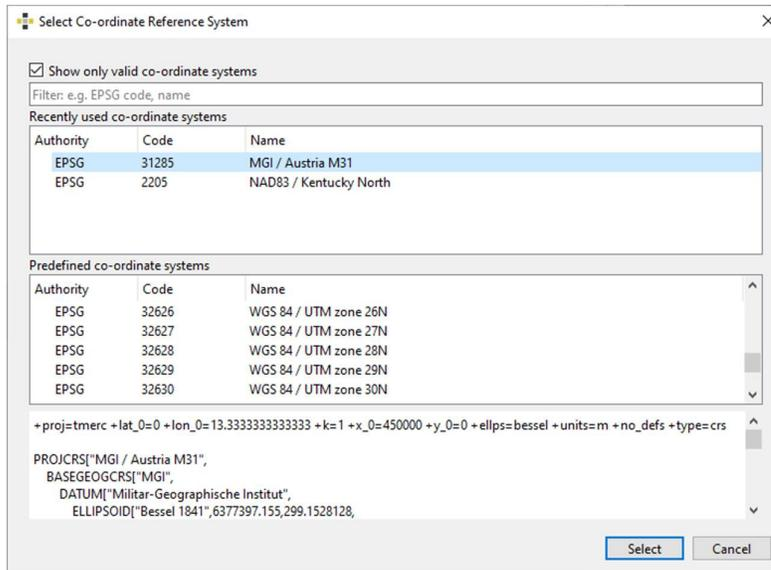

Figure 11: Select Co-ordinate Reference System
Co-ordinate system	The UTM zone is auto-detected from the referencing information of images (WGS 84). The user can select a user defined co-ordinate system by clicking on the  button and selecting “Browse Co-ordinate System”. The dialog “Select Co-ordinate Reference System” appears which allows for the selection of a specific co-ordinate system (Figure 11). The 3D model is transferred automatically into the desired co-ordinate system after 3D model generation.
7. Select the co-ordinate reference system: *UTM Autozone* (default) or select a specific co-ordinate system by clicking the  button. Select “Browse Co-ordinate System” and the “Select Co-ordinate Reference System” dialog appears (Figure 11). Select the reference system from the list and confirm the selection by clicking the “Select”  button.
- ii. Select a customized source and destination co-ordinate reference systems by selecting the radio button *WGS 84* or *Custom* and click in the  button and select the system in dialog (see Figure 11).